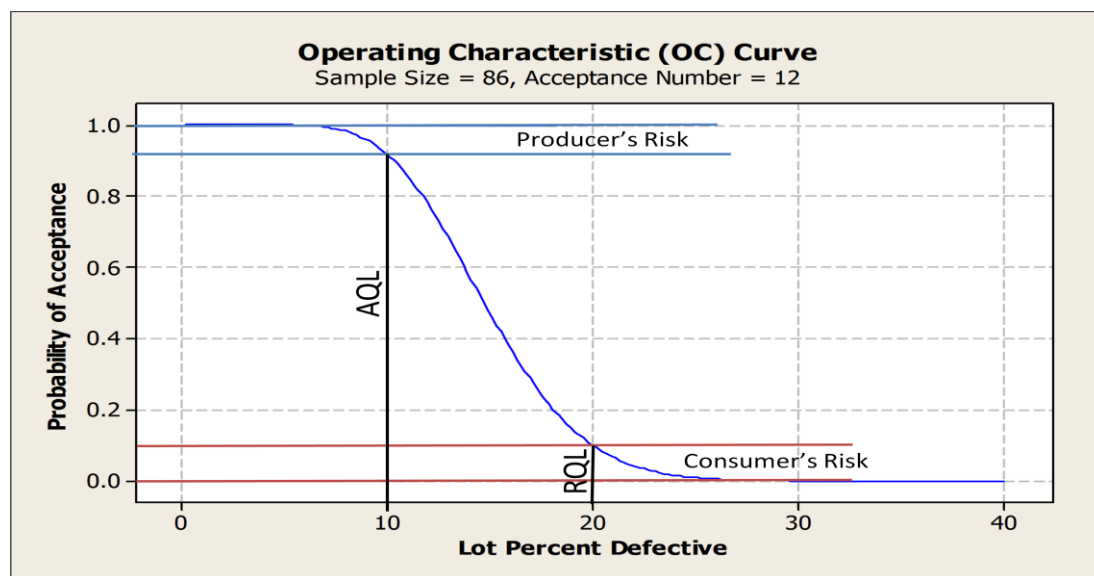

Figure 1: Sample OC curve
Operating Characteristic (OC) curves are widely used in industry for lot acceptance sampling plans (LASP). The x-axis is typically the percent defective, and the y-axis is the probability that the lot will be accepted. The user defines the Acceptable Quality Limit (AQL) and the Rejectable Quality Limit (RQL), and the producer's risk and the consumer's risk. The OC curve is generated by determining a sample size and an allowable number of failures or defects. Figure 1 is an OC curve with an AQL of 0.9 (percent defect of 0.1), a RQL of 0.8, producer's risk of 0.1, consumer's risk of 0.1, sample size of 86 and acceptance number of 12 (maximum number of failures allowed in the sample).
use the percent defective default, but other options include the proportion defective or defectives per million. The first two inputs boxes are the AQL and RQL in percent defective. Therefore enter 10 for a 0.90 proportion and 20 for a 0.80 proportion. Here alpha and beta are set to 0.1 and 0.1 and the results are shown in Figure 1. The program will also output the results in tabular form as shown in Table 1.